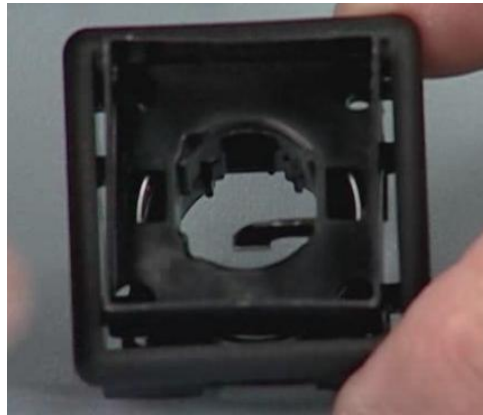

Figure 11
5. Insert the lens holder into the bezel until you hear the locking legs click. Then press the lens holder into place within the bezel. Press on the lens holder to make sure the spring is pushing it all the way up. See Figure 11.
7. With the lens holder now installed into the bezel you can no longer see the word “Top” within the bezel. Before installing the OLED controller into the bezel assembly, be sure that the bezel orientation is aligned the same as shown in Figure 11. With the actuating arm to the right.